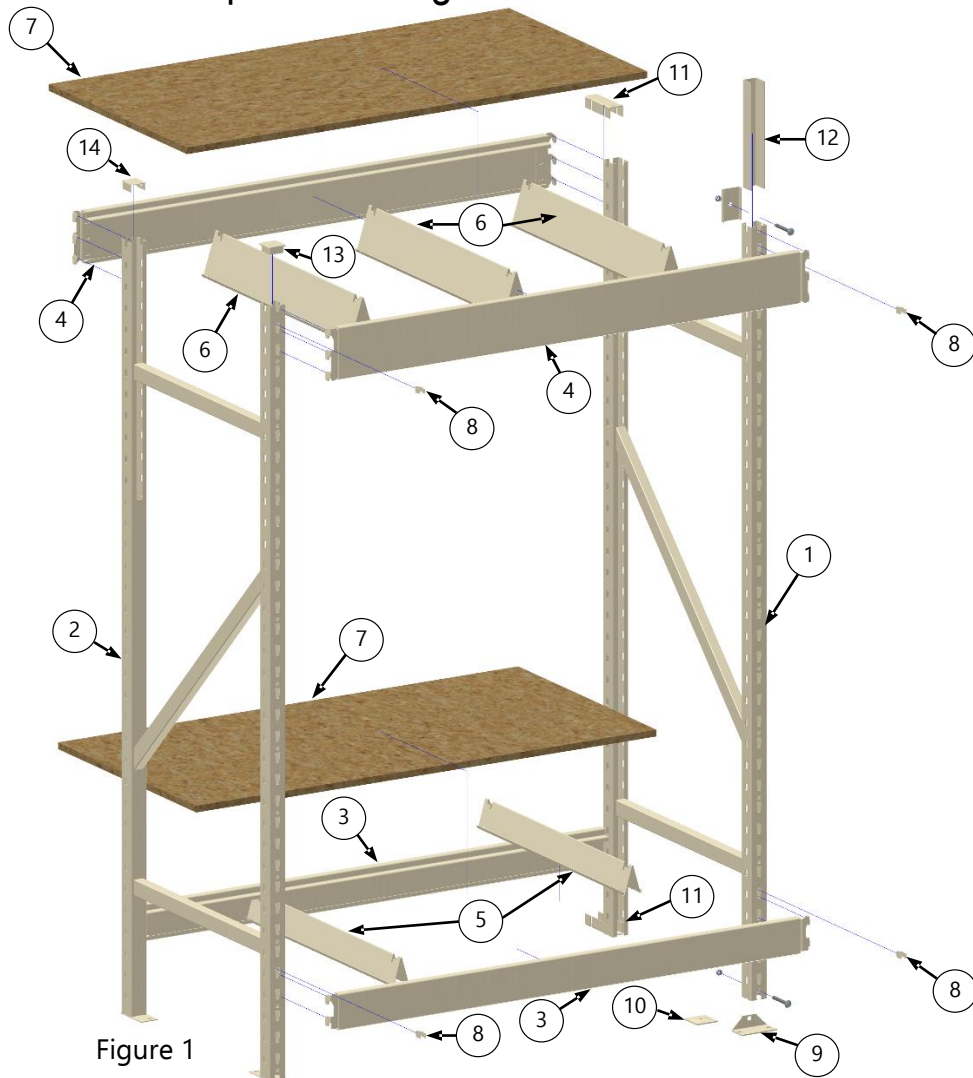

Figure 1
1.2 Erect two Wide Span Frames vertically with the diagonal bracing facing opposite directions (See Page 1 – Figure 1). Make sure that the small ends of the post slots face downward. Align the fronts of each frame to the chalk line.